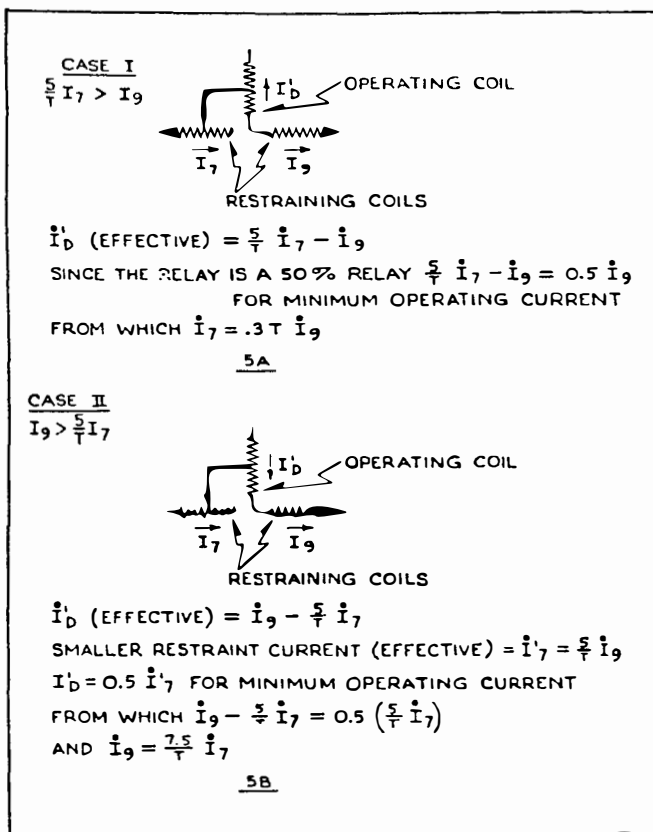

Fig. 7. Fundamental relationships in the Type CA Electro-magnet.
The derivations of equations (1) and (2) are given in Fig. 7, which has been included to illustrate the meaning of these equations.